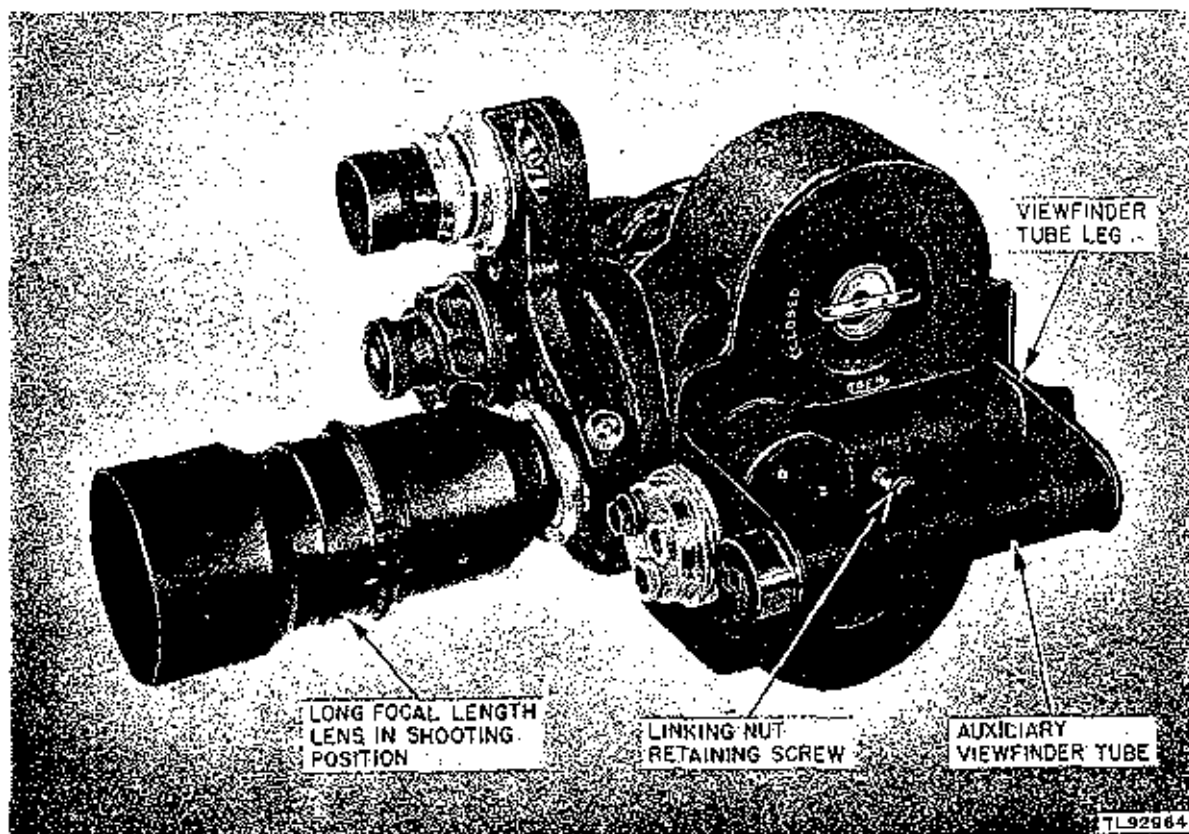

Figure 30. Camera PH-330-G, with auxiliary viewfinder tube attached.
**c. Auxiliary Viewfinder.** When lenses of long focal length and wide aperture (fig. 30) obstruct the field of the drum or turret viewfinders, an auxiliary viewfinder tube should be mounted alongside the standard finder. This is done by setting the auxiliary viewfinder tube flush with the turret viewfinder, so that the linking nut retaining screw (fig. 30) in the center of the auxiliary tube fits naturally over the threaded stud in the center of the turret viewfinder tube (fig. 10). When properly seated, the curved legs at each end of the auxiliary finder tube (fig. 10) will encircle the turret viewfinder tube just above the knurled drum at one end and the offset eyepiece at the other (fig. 30). When positioned on the drum viewfinder, the legs of the auxiliary tube must be fitted into place around the eyepiece rim and the base of the drum finder. Drum viewfinders do not provide the threaded stud in the center for the auxiliary linkage. Eyepieces and lenses for the auxiliary viewfinder are available in both the slip-in and the screw-on types, and should be properly attached before mounting the auxiliary unit. When the scene has been composed in the auxiliary viewfinder and the camera is in position for shooting, press the operating lever for the actual take.